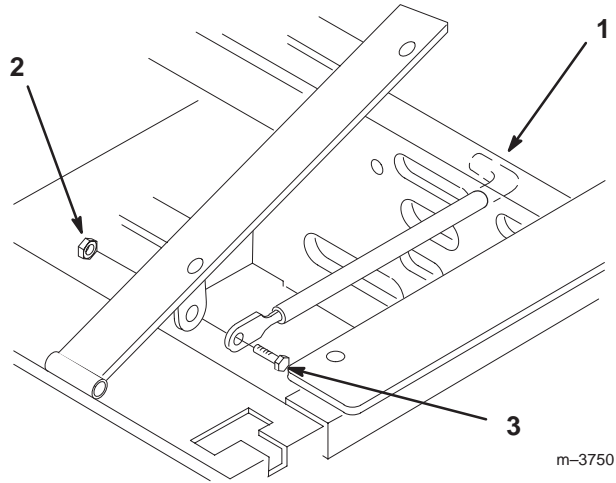

Figure 3
1. Tilt seat up. Remove the locknut (5/16 in.) from bolt attaching seat retaining rod to seat frame (Fig. 3).
2. Remove retaining rod from seat and insert the **L** shaped end of the rod into the hole directly above the left-side hydraulic pump (Fig. 3).
3. Place the seat retaining rod to the outside of the mounting tab of the seat frame and secure with a bolt (5/16 x 1 in.) bolt and locknut 5/16 in. (Fig. 3).